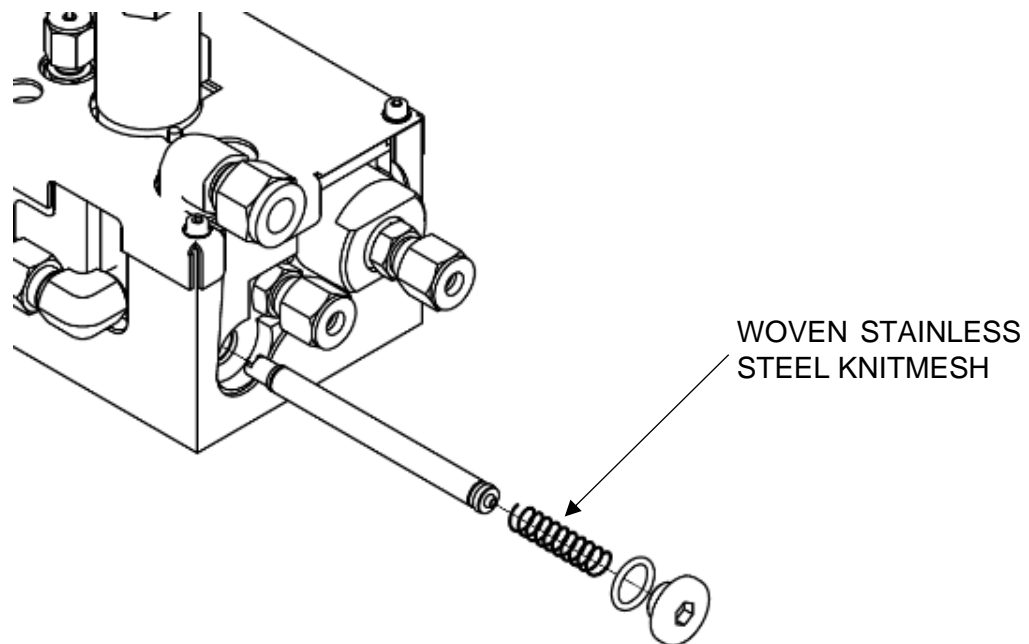

Figure 5 : Ozone Trap Cartridge Details
- Makeup Inlet Filter: Signal Part Number FILT/025 (see Figure 5 – Located on the rear panel of the analyser on the makeup air intake) – DETAIL A
- Air filter: Signal Part Number FILT/030 (see Figure 5 – Located on top of Ozoniser regulator assembly) – DETAIL B
- Converter filter: Signal Part Number FILT/030 (see Figure 5 – Located on connection between Converter and Reaction Chamber) – DETAIL C